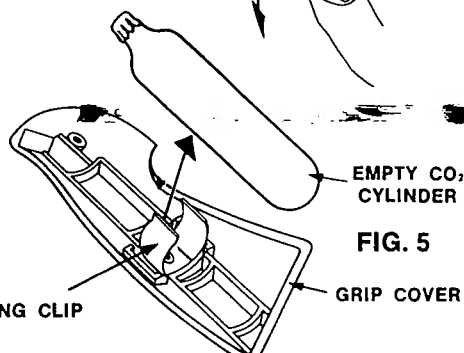

FIG. 5
- D. Remove the Grip Cover from the left side of Revolver lifting from the bottom edge. This will remove CO2 Cylinder. Slide empty CO2 Cylinder from Holding Clip. Fig. 5.